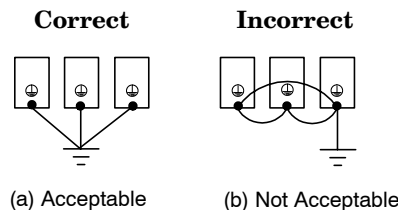
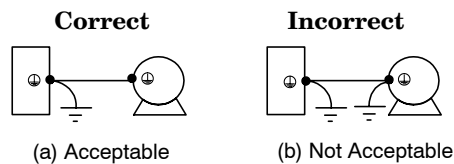

Fig 3.16
Fig 3.17 Grounding of Motor and Inverter
- Ground each Converter and Inverter directly to the ground as shown in figure 3.16 (a). Do not make a loop as shown in (b). Ground the Inverter and motor as shown in figure 3.17 (a). Do not ground both the Inverter and motor as shown in (b).